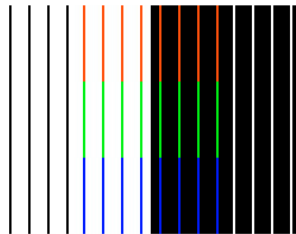

Figure 5. Distance and Skew Compensation Alignment image
1. Display the alignment image (see Figure 5 on the next page) on the PC output that you have connected to the input of the Xtendview transmitter. A copy of the alignment image can be found on the Xtendview CD ROM supplied with your system.
3. Using a pencil tip or other small blunt device, press the select button (2) sequentially to select the appropriate distance range. The current setting is indicated by three LEDs (1) adjacent to the select switch. If you do not know the approximate length of the cable, first select the minimum distance (0 – 500 ft.) and turn the fine adjustment control (3) fully counterclockwise. Note that you may not see a recognizable image until the set up procedure is complete.